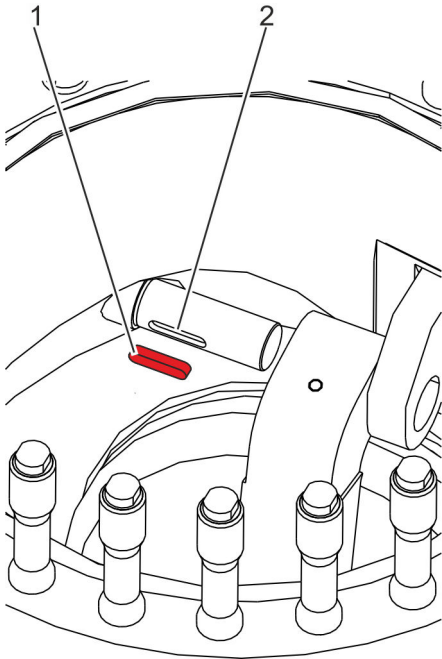

Fig. 25: Feather key
7. ➤ Remove the feather key (Fig. 25/1) from the groove (Fig. 25/2) of the valve shaft.
11. ➤ Insert the feather key (Fig. 25/1) in the groove (Fig. 25/2) of the valve shaft.